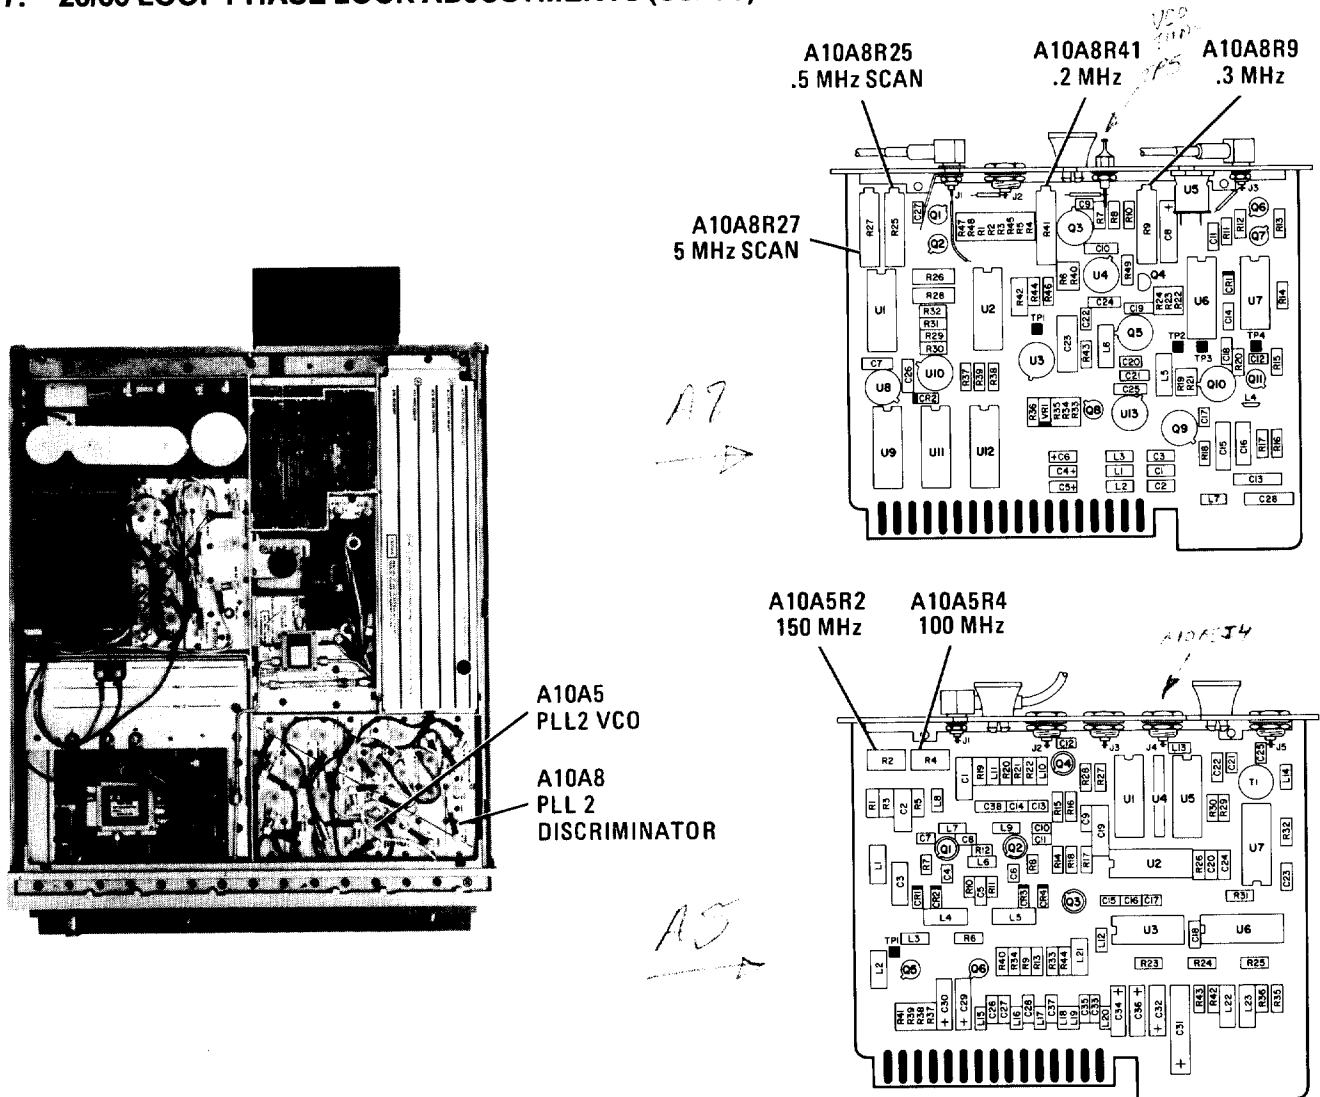

FIGURE 57. LOCATION OF PLL2 ADJUSTMENTS
6. Adjust A10A5R2 150 MHz adjustment for a DVM indication of $+3.0 \pm 0.5\text{V}$. Refer to Figure 57 for location of adjustments.